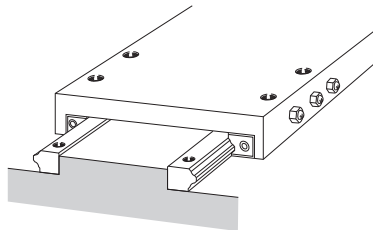

Fig.23
- a. It is preferable to use three clearance adjustment bolts for each LM block as shown in Fig.23.